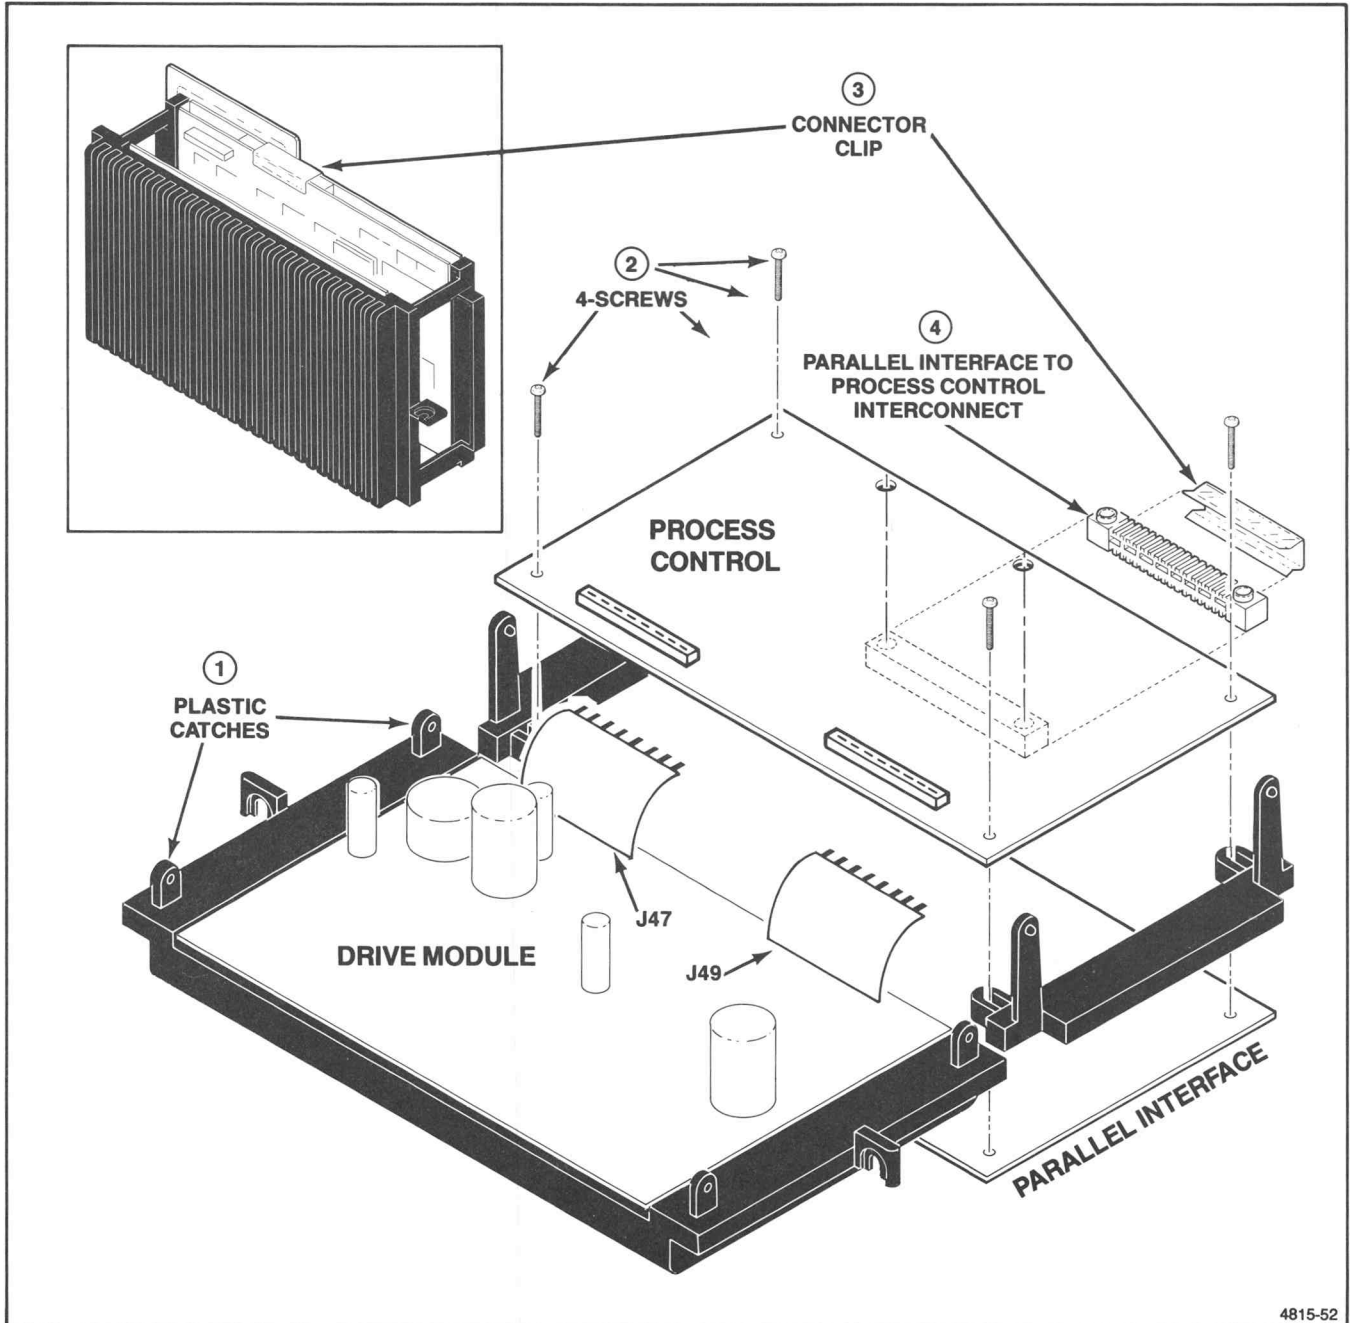

Figure 2-7. Isolating the Process Control and Parallel Interface.
3. Loosen the two screws at the top corners of the Process Control board, remove the metal clip and the captive connector (J41 to J61) between the two circuit boards — see Figure 2-7. Tighten the two screws after the connector is removed to guard against shorting.